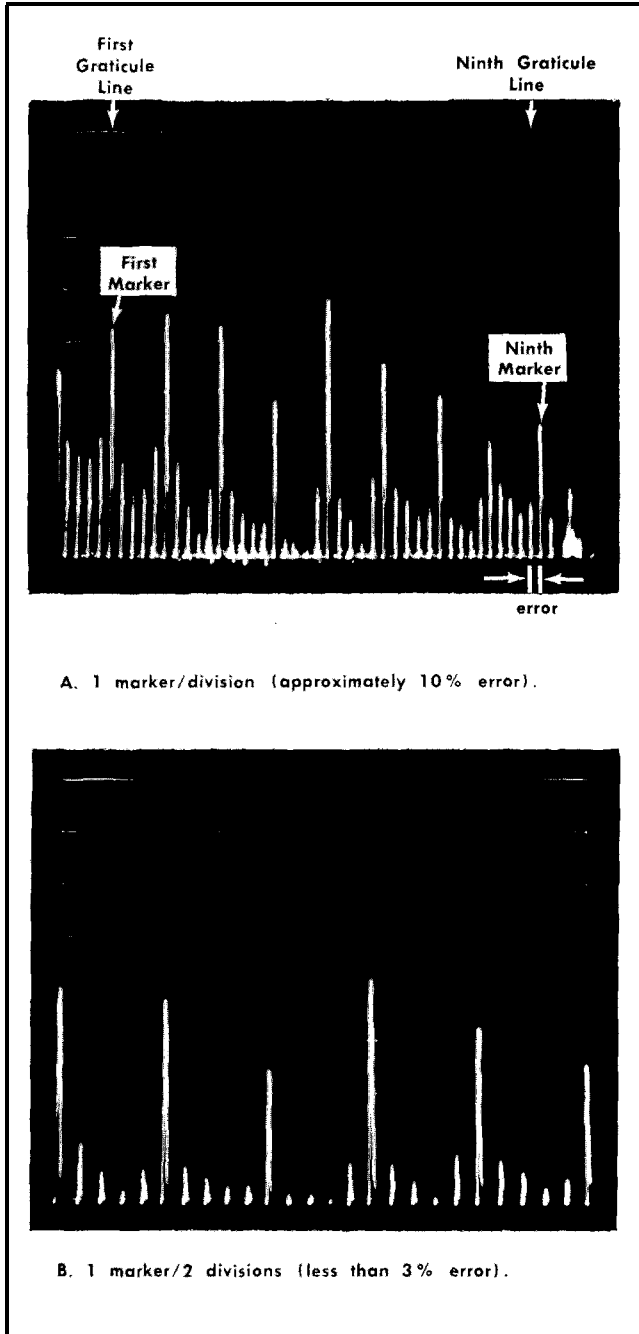

Fig. 5-2. Measuring dispersion accuracy.
- a. Requirement-Dispersion accuracy for the MHz/DIV ranges is listed in Table 5-2. IF CENTER FREQ coarse control range should equal or exceed + and - 25 MHz from its centered (000) position. Dispersion accuracy and display linearity must remain within the listed specifications of Table 5-2 to the + and - 25 MHz positions of the control.
- e. Check the dispersion accuracy and linearity for each MHz/DIV setting of the DISPERSION selector as listed in Table 5-2. (See Figs. 5-2 and 5-3.) The Horizontal POSITION control or the IF CENTER FREQ control may be used to align the prime markers to the graticule divisions. As the DISPERSION is decreased, the RESOLUTION control should remain in the coupled position,